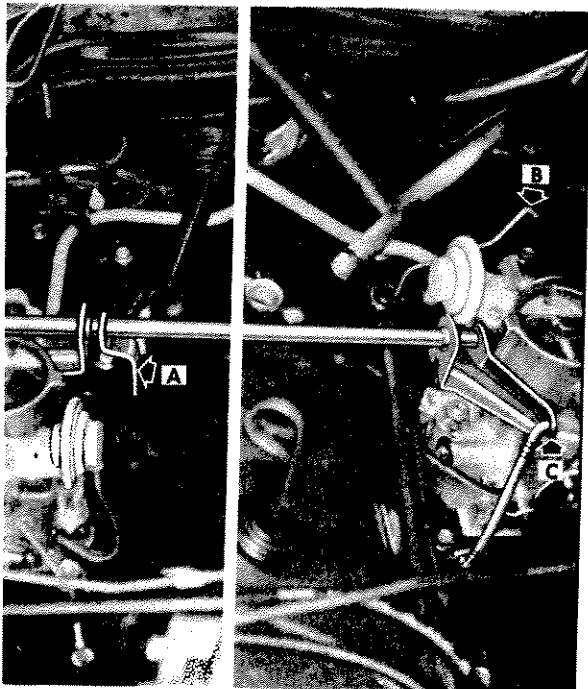

Fig. 6—Carburetor Linkage
Disconnect accelerator control rod swivel at cross shaft lever and connect accelerator pull back spring swivel hole in cross shaft lever "A" (fig. 6).
2. Disconnect choke rods at choke shaft levers on both carburetors and open choke valves "B" (fig. 6), then tighten carburetor hold down nuts.
4. Disconnect throttle rod from cross shaft lever on R/H carburetor "C" (fig. 6).
6. Connect throttle rod to cross shaft lever on R/H carburetor and disconnect throttle rod from cross shaft lever on L/H carburetor "D" (fig. 6).